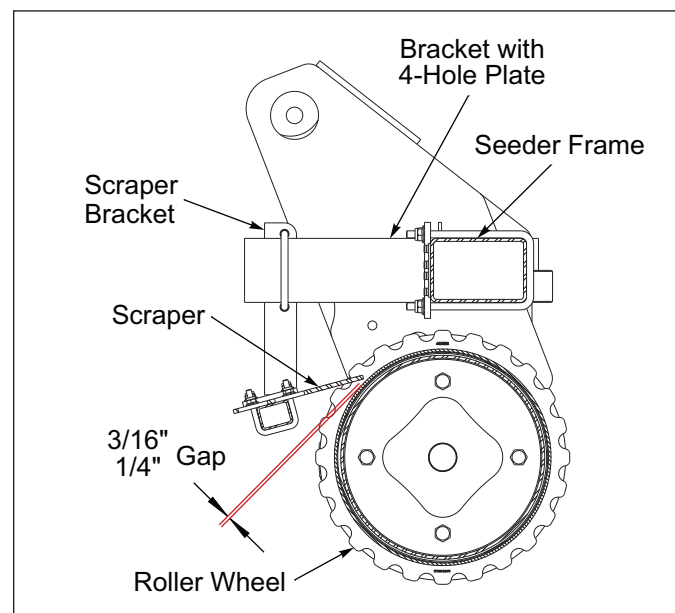

Figure 5-14: Scraper Dimensions
4. Adjust the Scrapers as needed to achieve a 3/16" to 1/4" gap between the Scrapers and Roller Wheels. **See Figure 5-14.** Scrapers should be close enough to the Roller Wheels to be functional but without interference.